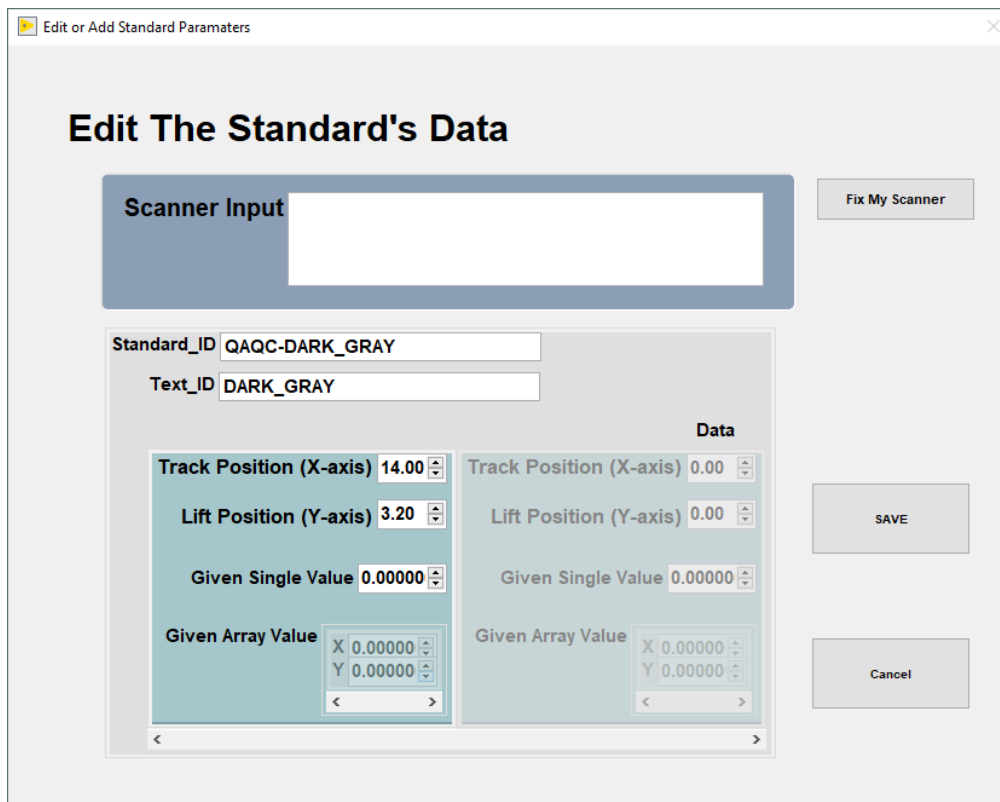

Figure 38. Edit Standard Window
3. Select the **Edit Standard** option to update an existing standard's identification information or position on the track (Figure 38). Select **New Standard** to create a new individual standard.